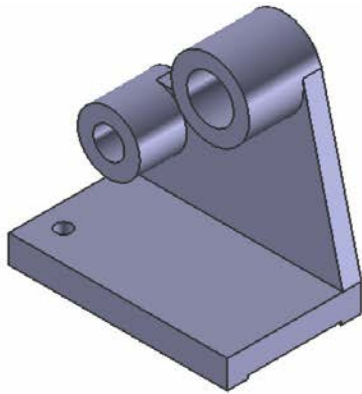

Figure 6-91 Model after creating the first hole in the base feature
7. Accept other default settings and choose the **OK** button from the dialog box; a hole is created in the base feature, as shown in Figure 6-91.